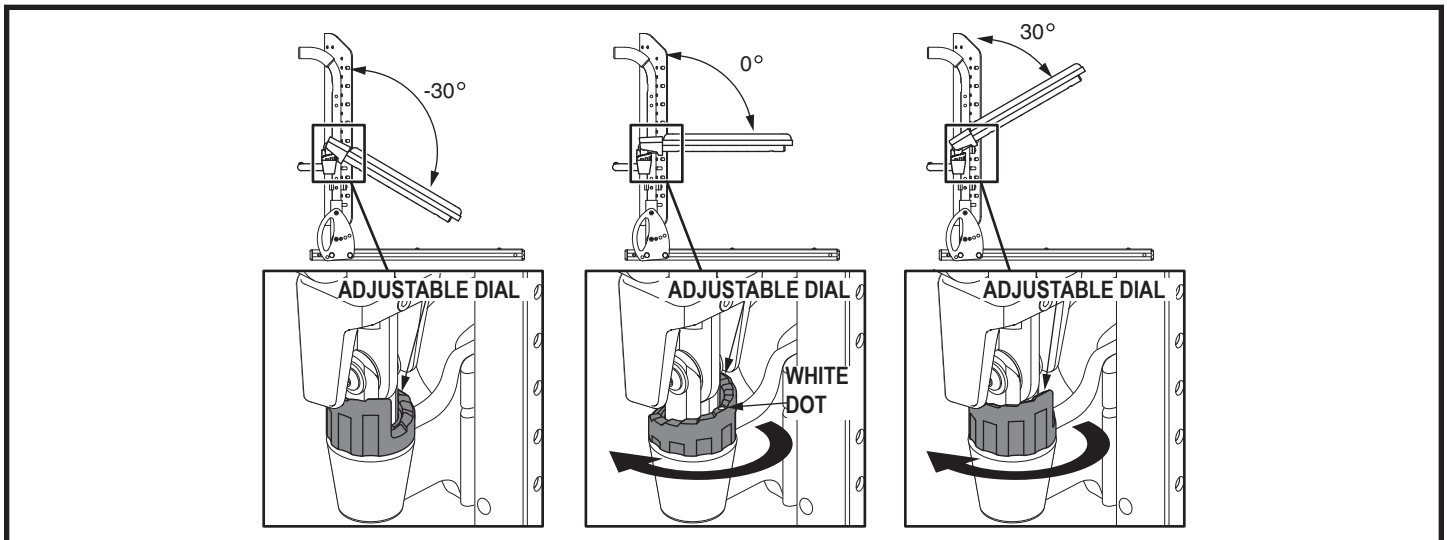

Figure 16. Cantilever Armrests Angle Adjustment
2. Turn the adjustable dial clockwise to change the angle of the armrest. **See figure 16.** The armrest is at 0° when it sits on the white dot of the adjustable dial. From 0°, the angle can be decreased to -30° or increased to 30° in 5° increments. The adjustable dial moves only in the clockwise direction.